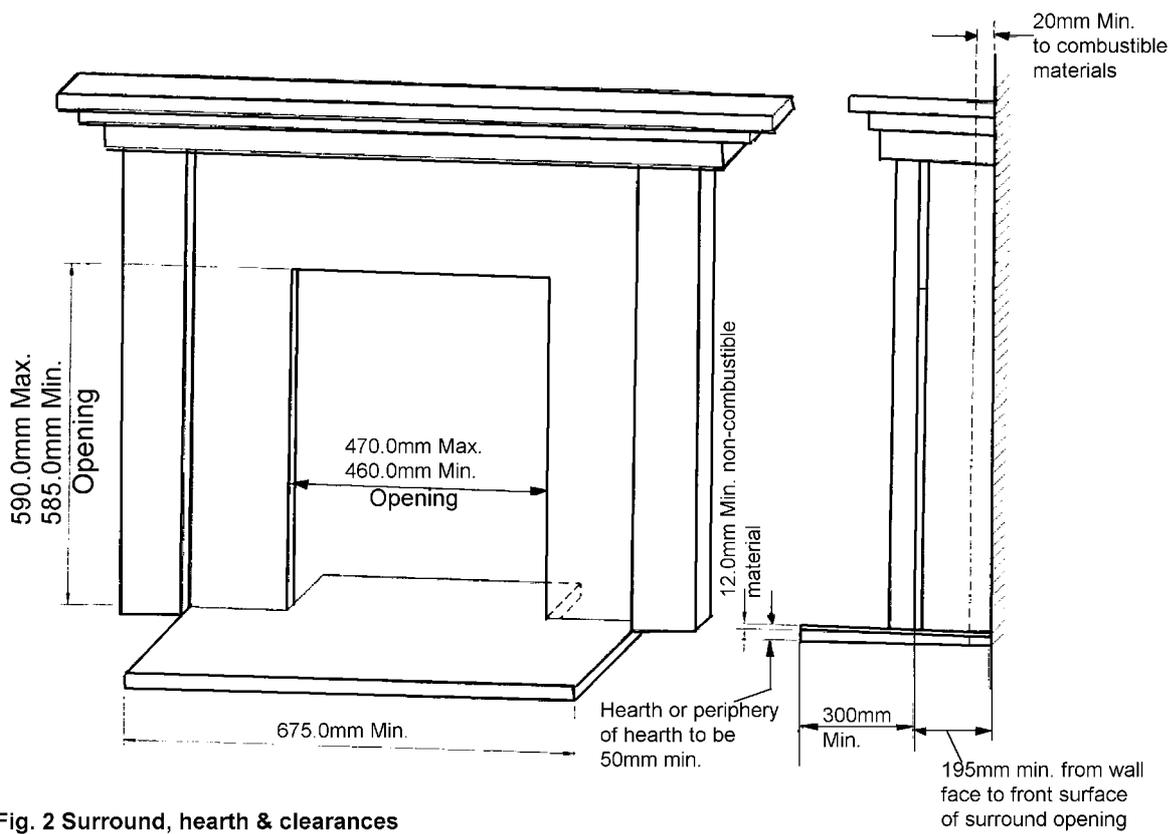

Fig. 2 Surround, hearth & clearances
- 2.1** The kit is intended to be used in conjunction with a surround and hearth meeting the dimensional requirements shown in figure.2. If the surround contains combustible material, it must be removed from any areas where removal of combustible cladding is called for in the appliance installation instructions.